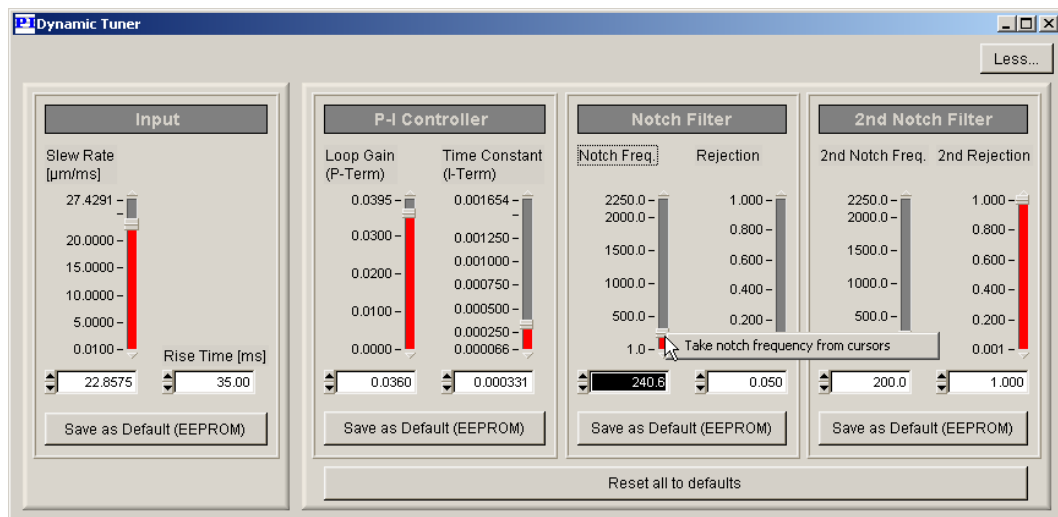

Fig. 47: Dynamic Tuner window, extended
10. Now open the *Dynamic Tuner* window by pressing F3 or using the *View* → *Dynamic Tuner* menu sequence. If necessary click *More* to see all the parameters. This window has sliders to adjust the dynamic parameters and buttons to save the settings (Fig. 47). If the controller only has one notch filter, the *2nd Notch Filter* pane will be grayed out.
11. Move the *Notch Freq.* slider to adjust the notch frequency (Fig. 47) or right-click on the slider and click on the *Take values from cursors* item on the context menu that appears. The notch filter frequency will then be taken from the cursor which has the higher frequency value. If desired, repeat the procedure for the second notch filter, if available: mark the next higher resonance with the cursor (see step 9) and use the *2nd Notch Filter* slider.
5. Open the Dynamic Tuner window by pressing **F3** or using the *View* → *Dynamic Tuner* menu sequence. If necessary click *More* to see all the parameters. (Fig. 47).